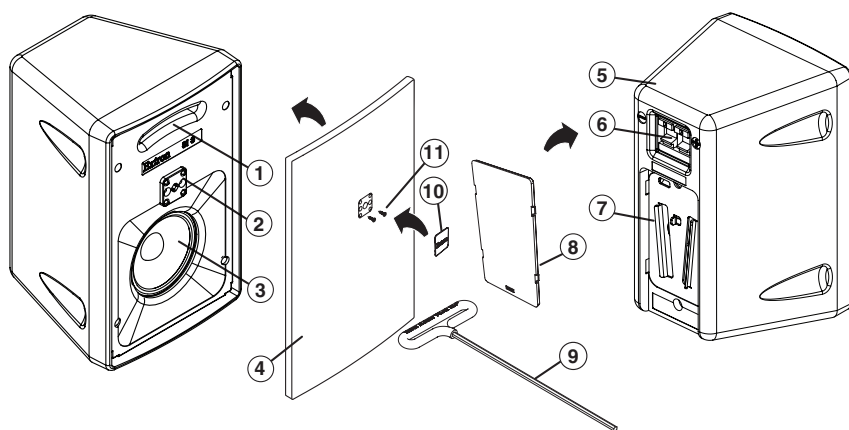
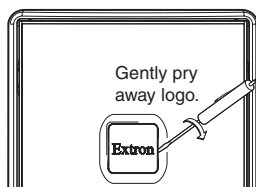

Figure 3 — Speaker features
Figure 12 — Removing the logo from the front grill
4. To adjust the angle of the speaker, carefully remove the Extron logo on the front of the speaker to expose the front locking access (see figure 3, item ②, for location). To do this, carefully pry the logo away with your fingers or use a small flat head screwdriver (see figure 12), taking care not to damage the front grill or the logo.